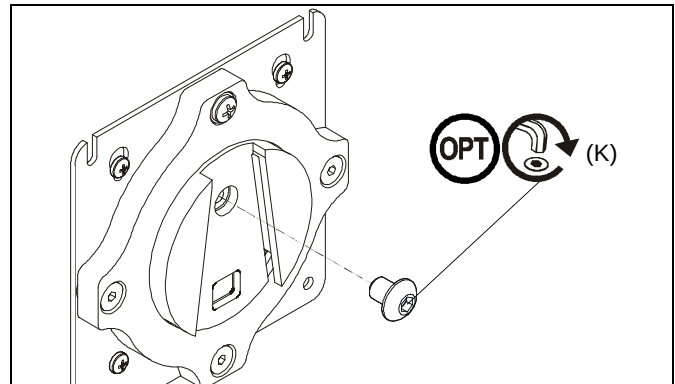

Figure 15
NOTE: (Optional) Rotational adjustment may be locked by installing rotational locking screw (K) into back of faceplate. (See Figure 15)